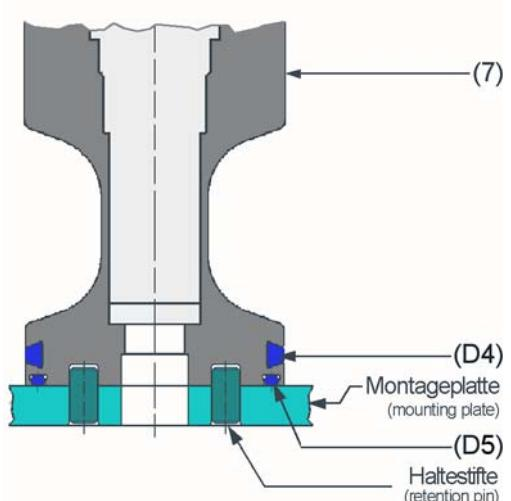

fig. 3
- Place the hook spanner in the bore hole (B1) and screw out the upper piston (7) at the top with the mounting plate (see fig. 3/page 8).
- Push off the insert (5), the upper seal (D1) and the upper bearing bush (4) of the piston (7) against direction 'X'.
- Remove the valve lift stop (16) upwards.